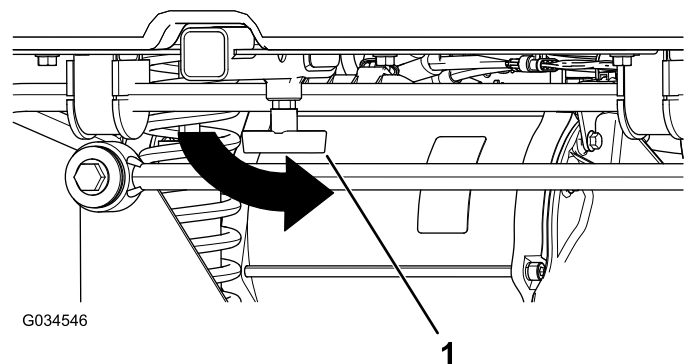

Figure 20
4. Tighten the “T” handle by rotating it counterclockwise (Figure 20).